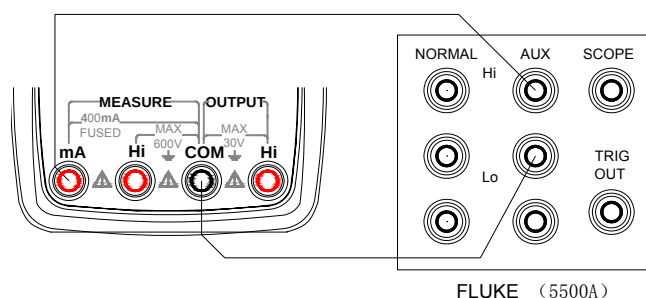

Figure 13. Current Calibration
1. The calibration wiring diagram is shown in Figure 13.